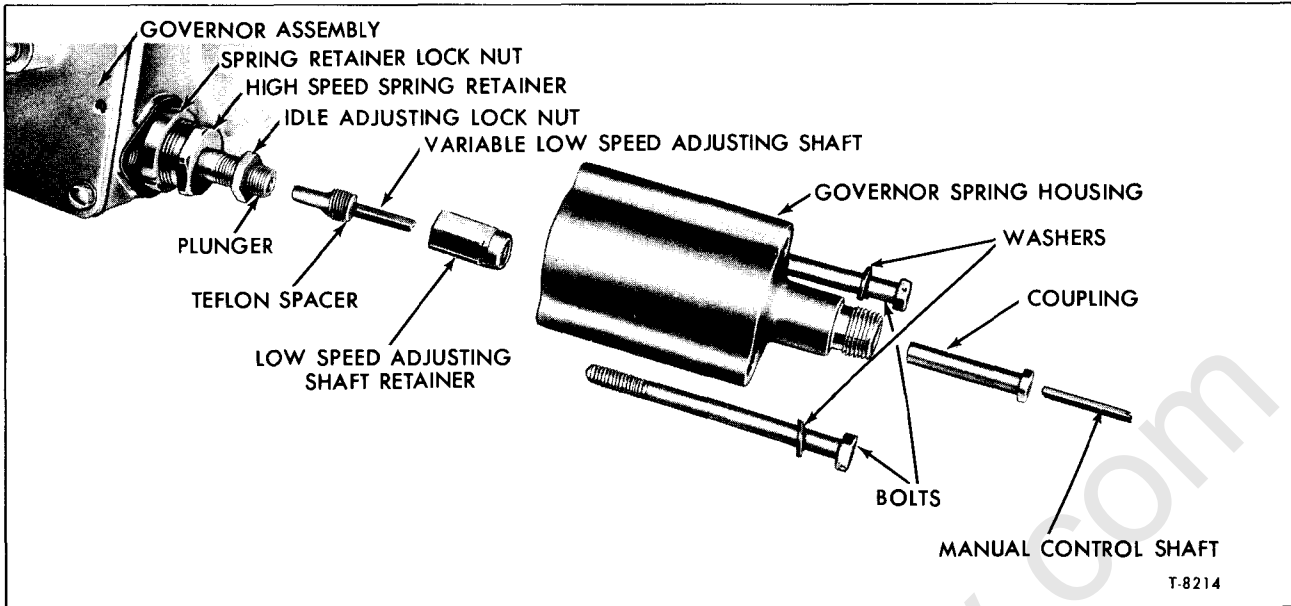

Figure 3—Variable Low Speed Limiting Speed Mechanical Governor Spring Housing Components
1. With the engine stopped, remove flexible coupling, manual control shaft, the two attaching bolts and withdraw the governor high speed spring retainer cover (fig. 3).
2. If necessary to adjust, hold lock nut and loosen the variable low-speed adjusting and shaft retainer (fig. 3). Adjust the retainer and shaft assembly to obtain the desired idle speed (550 rpm minimum) IN to increase or OUT to decrease.
8. Provide a suitable pointer and attach it to the crankshaft front cover or engine front endplate as illustrated in figure 3. The pointer should extend over the vibration damper, or crankshaft pulley, whichever is used.
15. Scribe a third line halfway between the first two lines. This is positive top-dead-center. The three scribed lines are shown on the crankshaft pulley in figure 3. Remove the indicator from the engine.